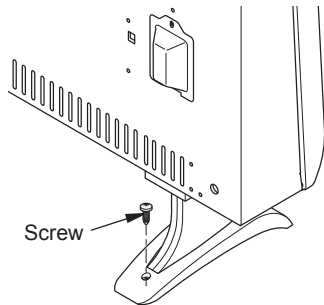

Figure 13 - Securing Heater to Floor
5. Position the heater to the desired location. Secure the base feet to the floor by using two Phillips head self tapping screws (provided) (see Figure 13).